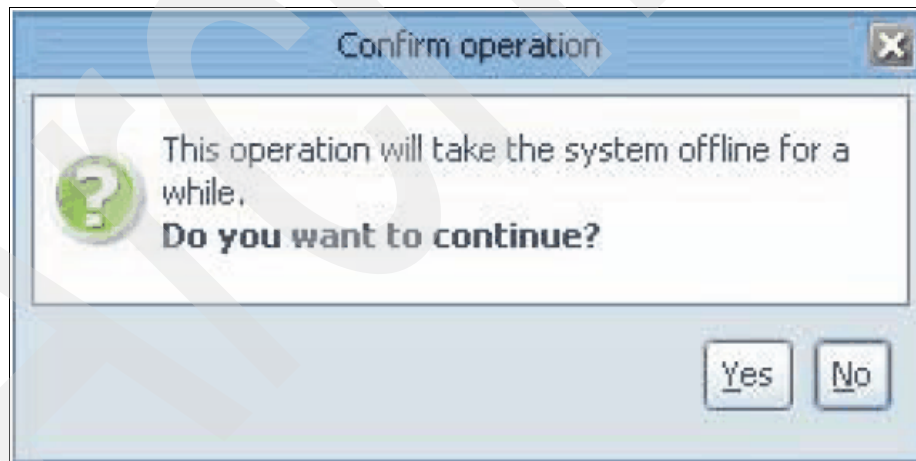

Figure 6-36 PT Manager_Meta data confirm
12. The Confirm operation panel appears. See Figure 6-36. Click **Yes** to continue.